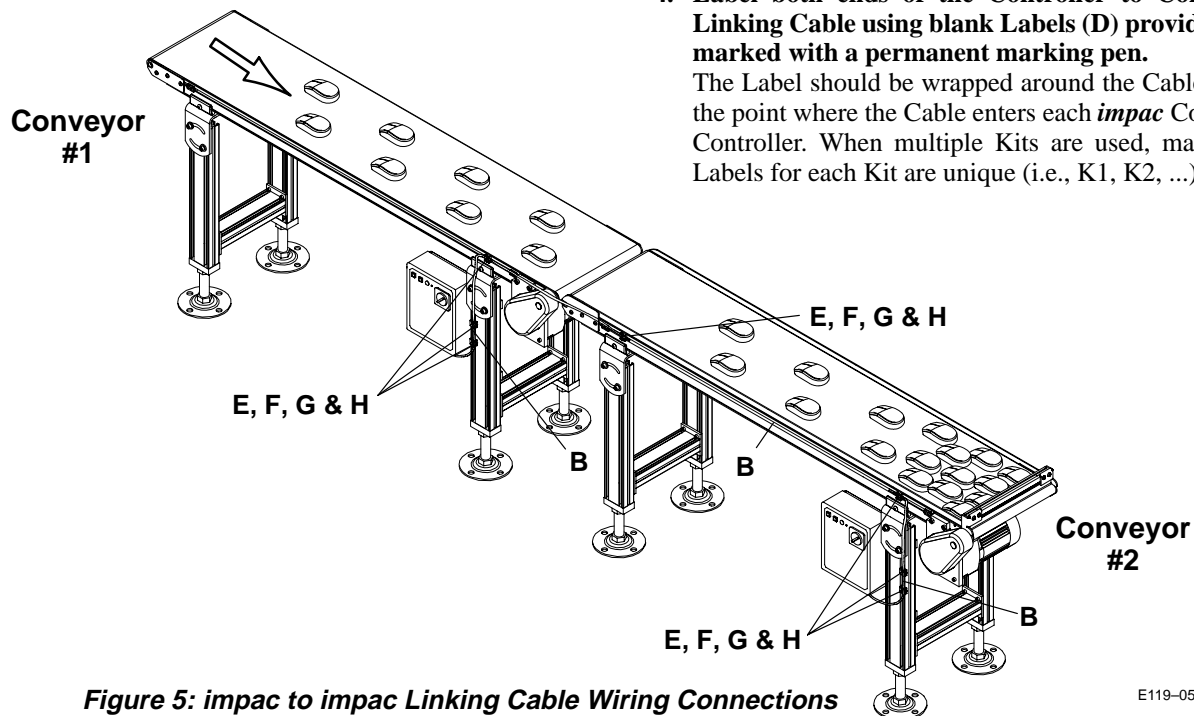

Figure 5: *impac* to *impac* Linking Cable Wiring Connections
- e. Figure 5 shows a typical wire routing of two *impac* Conveyor Controllers using the conveyor's T-slot with both T-slot Cover Strips and Zip Ties (H).
- c. The sample application of Figure 5 requires that Conveyor #1 follows operation of Conveyor #2. When #2 runs, #1 is allowed to run. When #2 stops, #1 must stop.